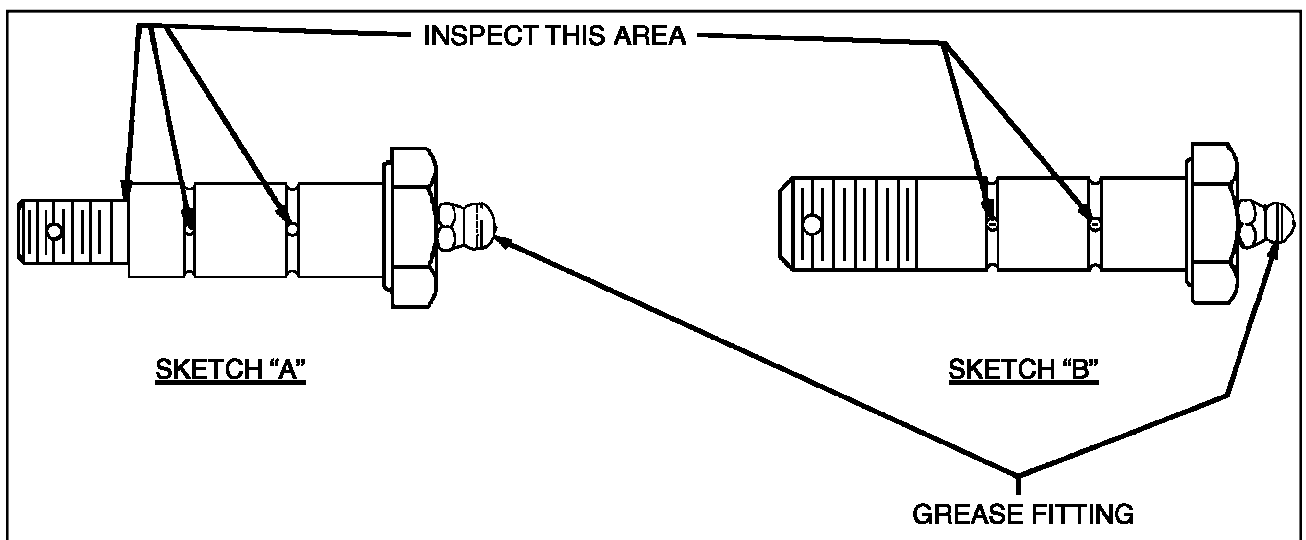

Figure 3-7. Main Landing Gear Torque Link Greaser Bolt Inspection
**NOTE:** The 100 hour inspection requirement can be extended to 500 hours by the installation of Piper Kit No. 760-910V (to replace Sketch "A" bolt) or a new greaser bolt P/N 79543-002 (to replace Sketch "B" bolt) depending on which bolt is being replaced (see Figure 3-7).
- (c) Thoroughly inspect each bolt using a 10X magnifying glass, or dye check, or magnetic particle inspection for cracks as shown in Sketches "A" and "B", Figure 3-7.